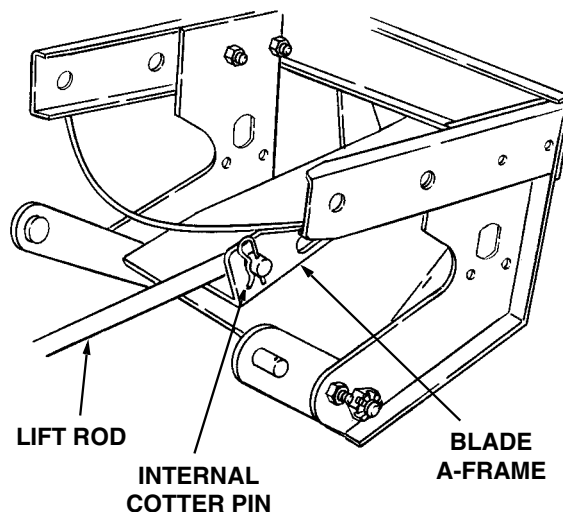

Figure 10
When attaching the lift rod assembly to the blade's A-frame assembly, the rod must be inserted from left to right as shown in Figure 10.
8. Install the lift rod (3) in the front lift bracket of the A-frame assembly and secure with an internal cotter pin (14). See Figure 10.